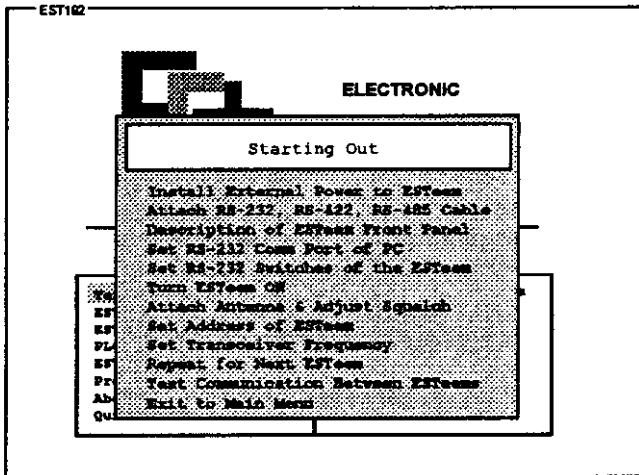

Figure 3: Starting Out Menu
1. Select ESTEem Setup from the main menu. A window like the one in Figure 3 will be displayed.